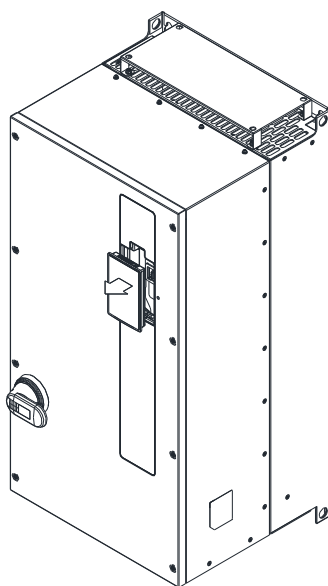

Figure 6-16
- 1) Remove the keypad. (As shown in Figure 6-16)